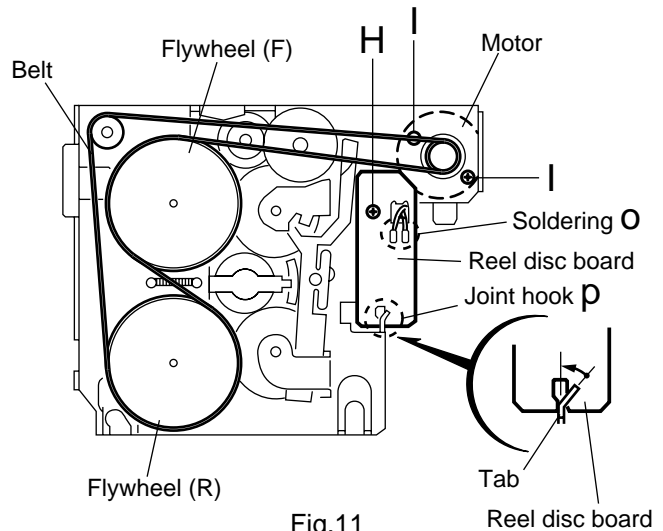

Fig.11
■Removing the reel disc board (See Fig.11)